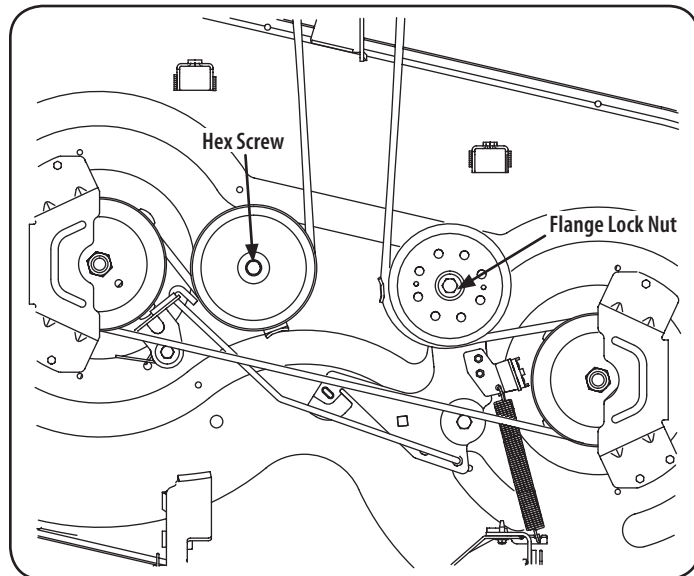

Figure 27
- Loosen, but do not remove the flange lock nut on the right idler pulley and the hex screw on the left idler pulley. See Figure 27.